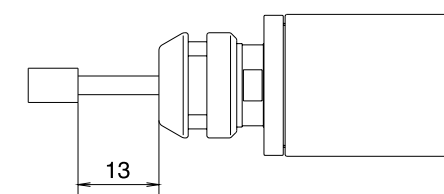

Fig.10
- ② Do not exceed 13mm overhang for mounted grindstones. In case overhang must exceed 13mm reduce the motor speed in accordance with Fig.10.
- ③ Do not use tools with bent or broken shanks, cracks or excessive runout.
- ④ Dress the grindstone prior to use.
- ⑤ For grinding the maximum depth of cut should not exceed 0.01mm radially or axially. Reciprocate the tool several times after each in feed step.
- ⑥ Always operate tools within the tool manufacturer's recommended speed limits. Use of a tool outside of the manufacturer's recommended speed limits could cause damage to the spindle and injury to the operator.
- ⑦ Keep the tool shank and collet clean. If contaminants are left in the collet they can cause excessive runout and damage the tool and spindle.
- ⑧ Do not drop or hit spindle.